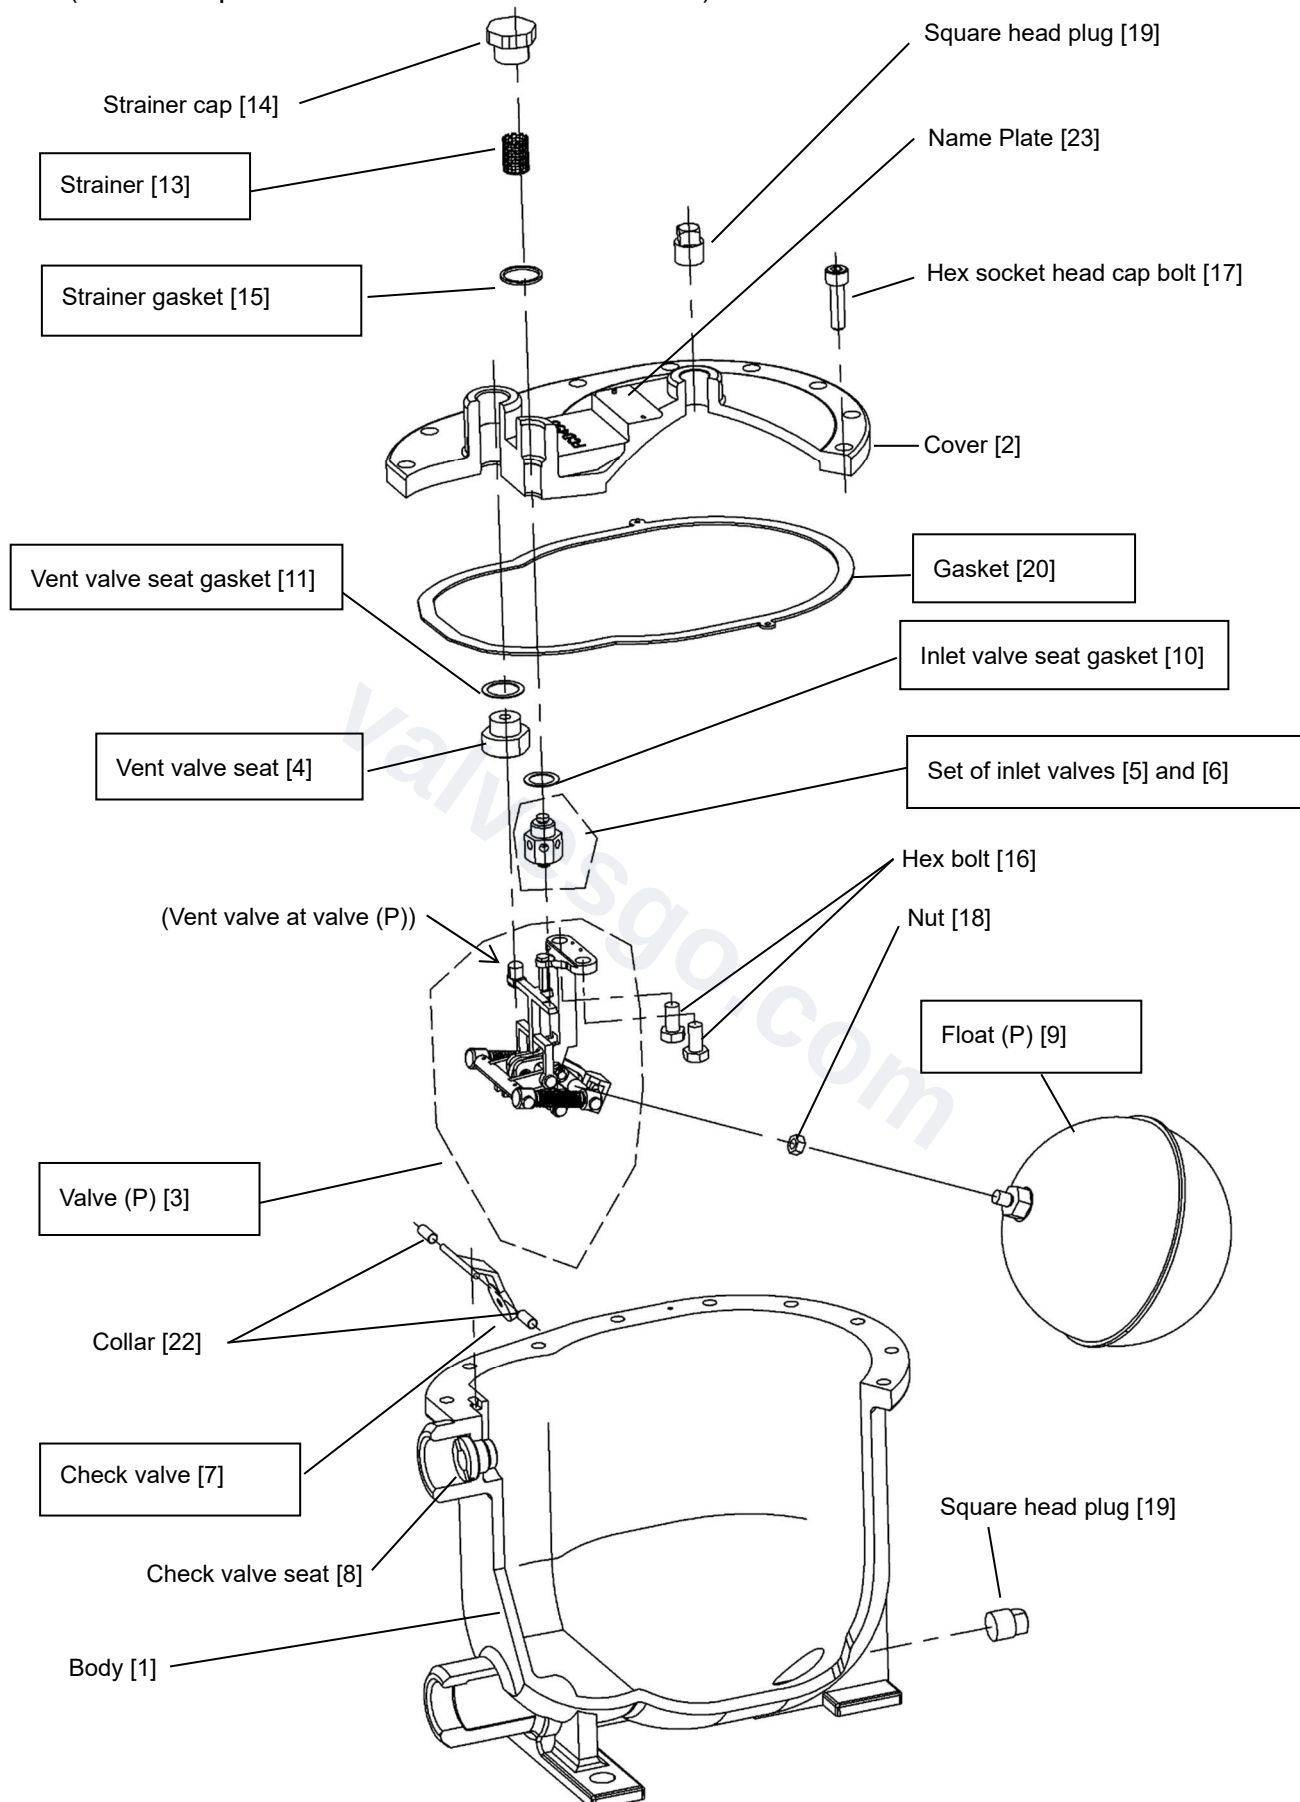

Fig. 6. Exploded view
8.3 Troubleshooting (See 6.1 Piping example for marks and numbers of stop valves, and see Fig. 6 for the numbers inside the brackets [].)
8.4.2 Disassembly method (See Fig.6)
8.4.3 Assembly method (See Fig.6)